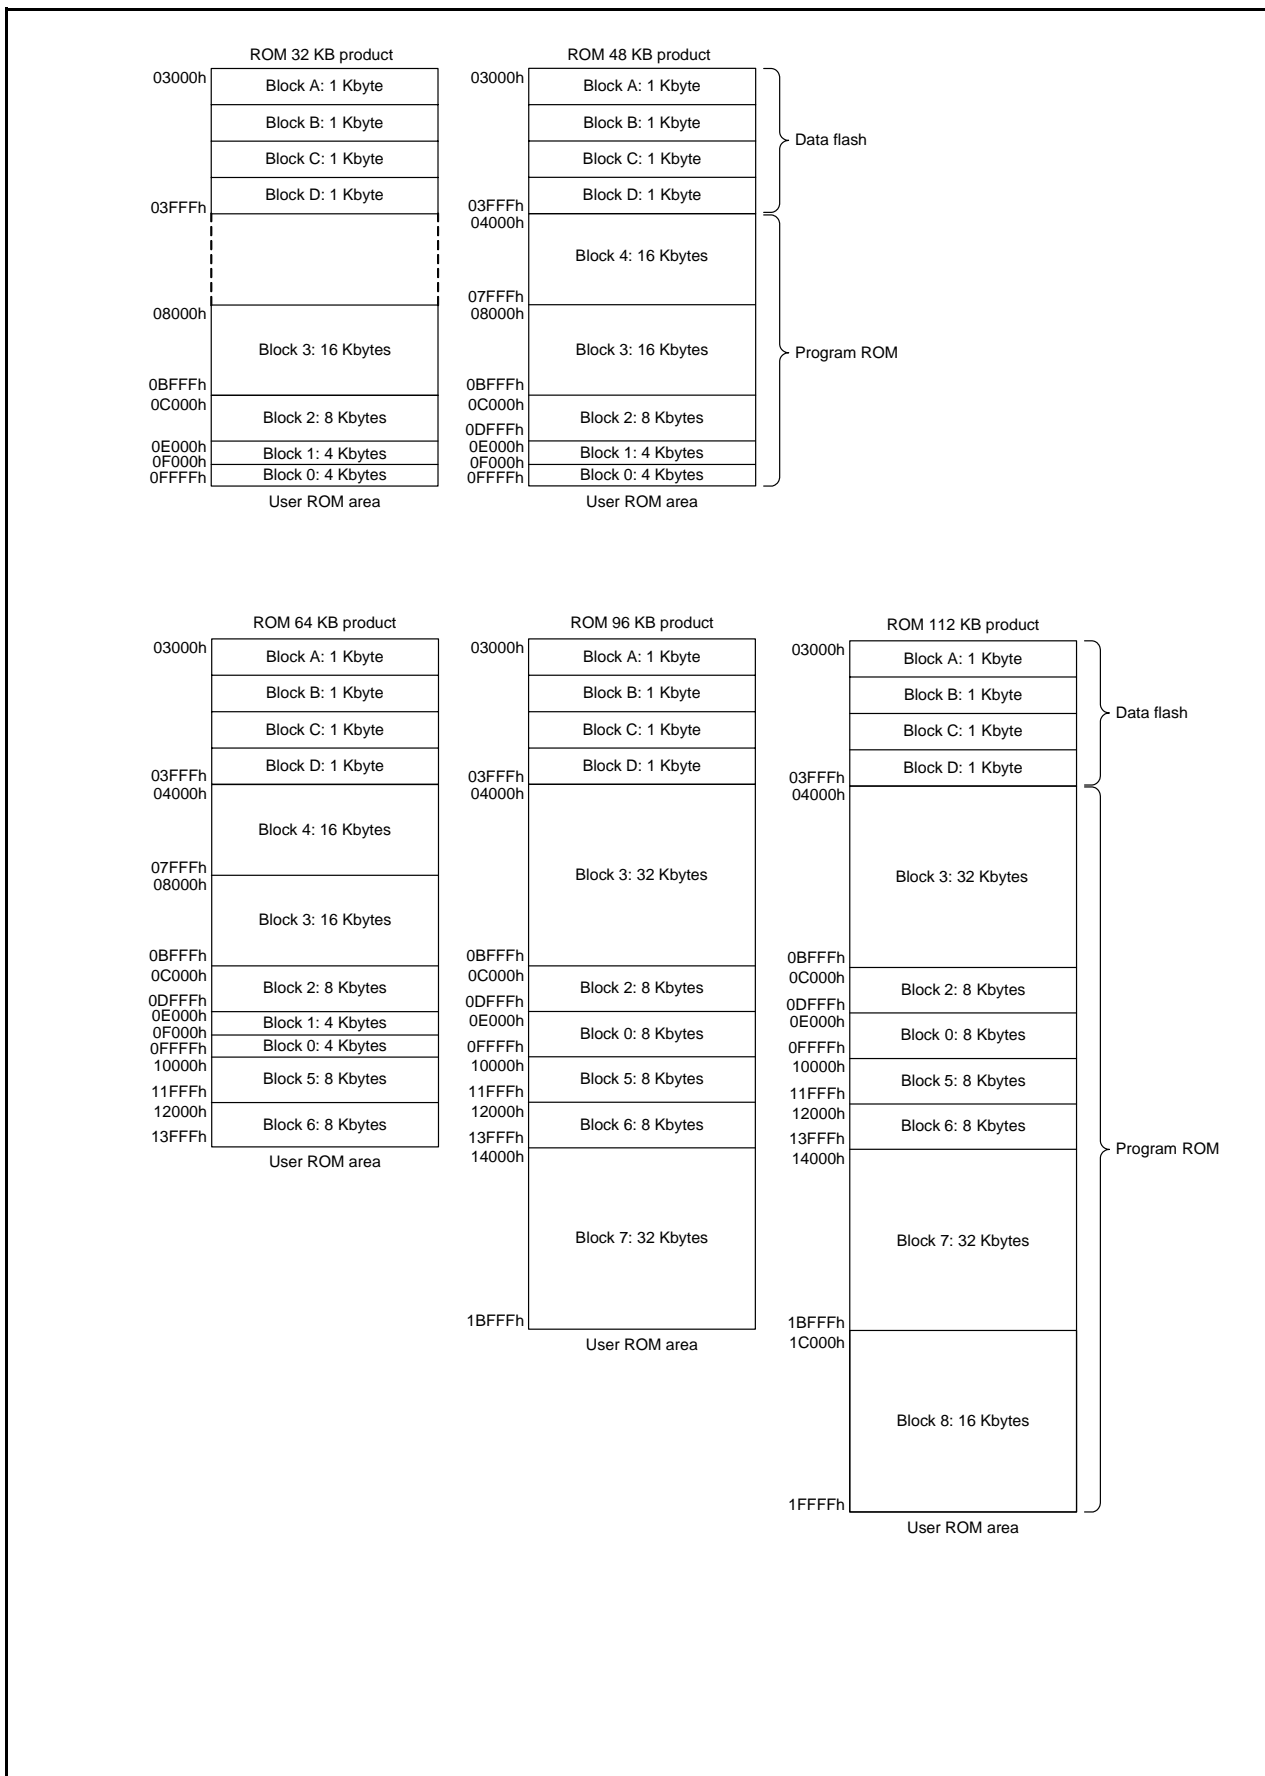

Figure 26.1 R8C/3MQ Group Flash Memory Block Diagram
- The number of blocks and block division vary with the MCU. Refer to **Figure 26.1 R8C/3MQ Group Flash Memory Block Diagram** for details.
Figure 26.1 shows the R8C/3MQ Group Flash Memory Block Diagram.